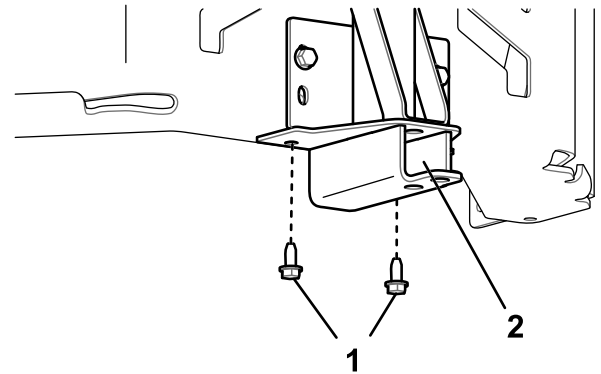

Figure 8
3. Secure the pivot frame to the bottom of the machine frame using 2 self-tapping screws (5/16 x 3/4 inch) as shown in Figure 8.